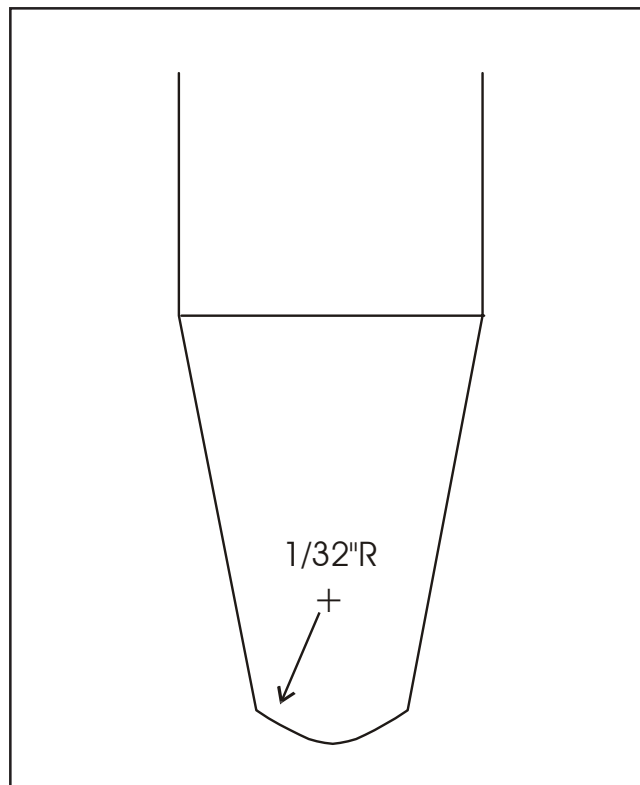

Figure 6: PROBE TIP GEOMETRY
2. Probe should be dressed with fine sandpaper to provide a $1/32''$ tip radius. Dress probe frequently (after every gage installation) or whenever severe sparking has occurred. (Figure 6)